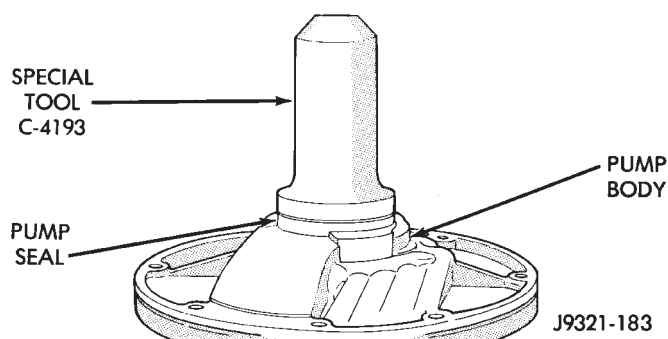

Fig. 56 Pump Oil Seal Installation
(12) Install new oil seal in pump with Special Tool C-4193 and Tool Handle C-4171 (Fig. 56). Be sure seal lip faces inward.
(13) Install new seal ring around pump housing. Be sure seal is properly seated in groove.
(14) Lubricate lip of pump oil seal and O-ring seal with transmission fluid.